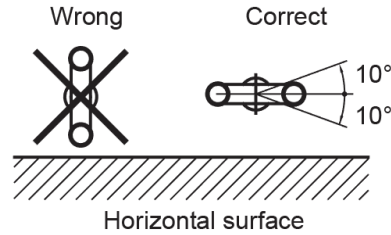

Fig. 31 —Correct Branch Joint Positioning
4. The branch joint must be installed parallel to the ground, and the angle of the joint should not be greater than 10°. Positioning the branch joint more than 10° from parallel can cause malfunctions. See Fig. 31 and 32 for correct positioning of the joint.